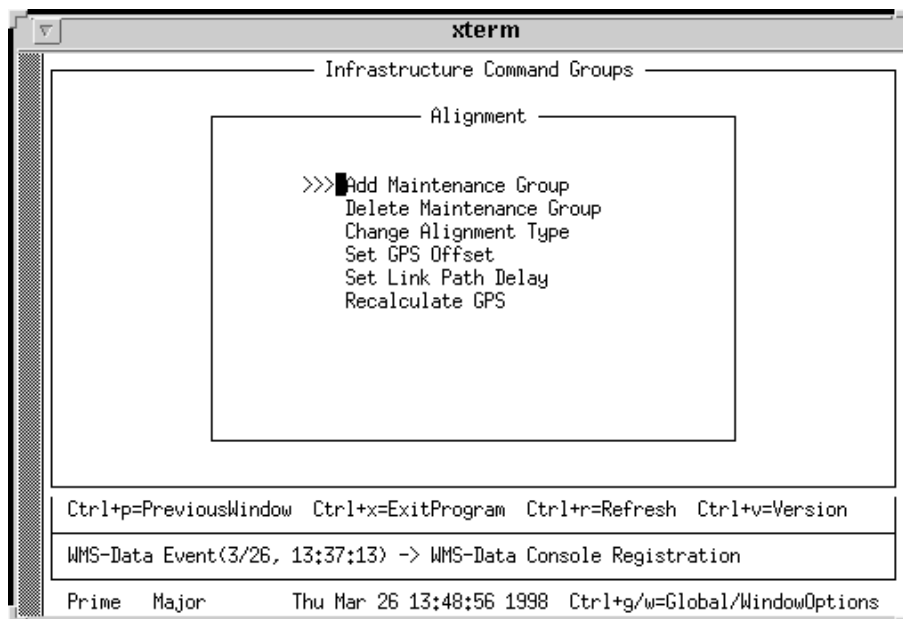

Figure 3-1: Alignment Menu—Add Maintenance Group
1. From the Alignment menu, use the <tab> to position the cursor to the left of the listing Add Maintenance Group and press: <Return (see Figure 3-1).